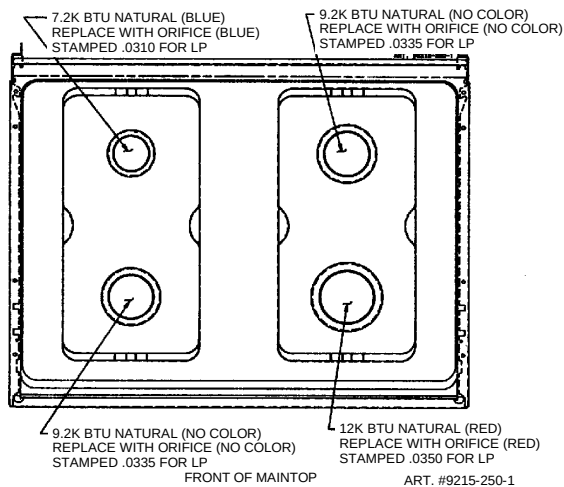

FIGURE 6
- Place the corresponding orifice hood on the burner fitting according to figure 6. Turn the orifice hood clockwise by hand approximately one turn. Tighten the orifice hood clockwise with a  $\frac{1}{2}$ " socket wrench approximately  $2\frac{1}{2}$  turns.